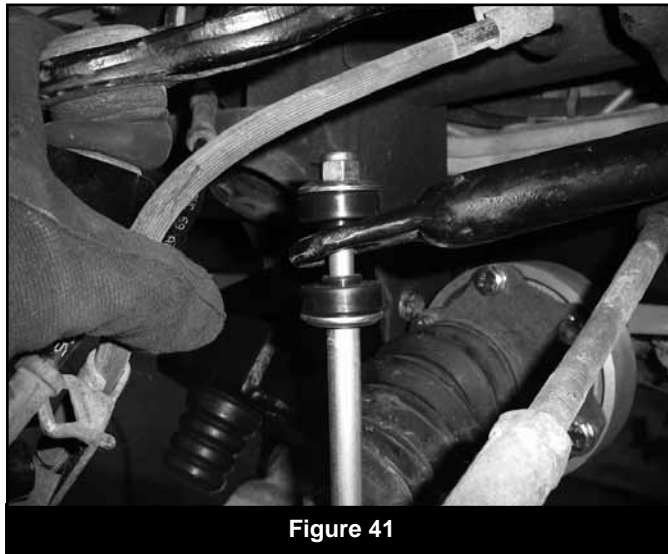

Figure 41
73. Install a provided stem washer (S100776) followed by a stem bushing (SB26BK) on each sway bar link. Install both links into the sway bar and install a second stem bushing followed by a second washer. Fasten the sway bar link upper assemblies with 7/16" nylock nuts (BP 569). Leave nuts loose (Fig 41).